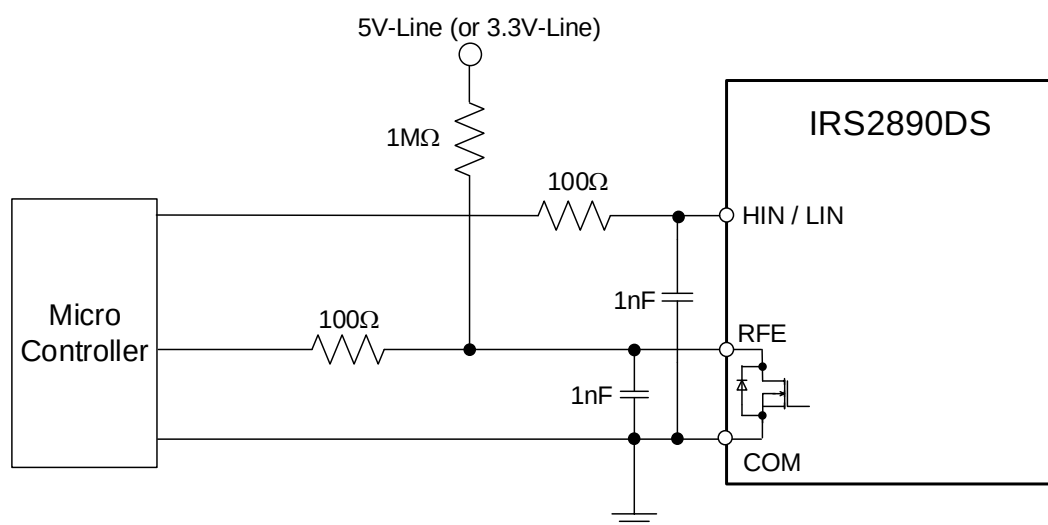
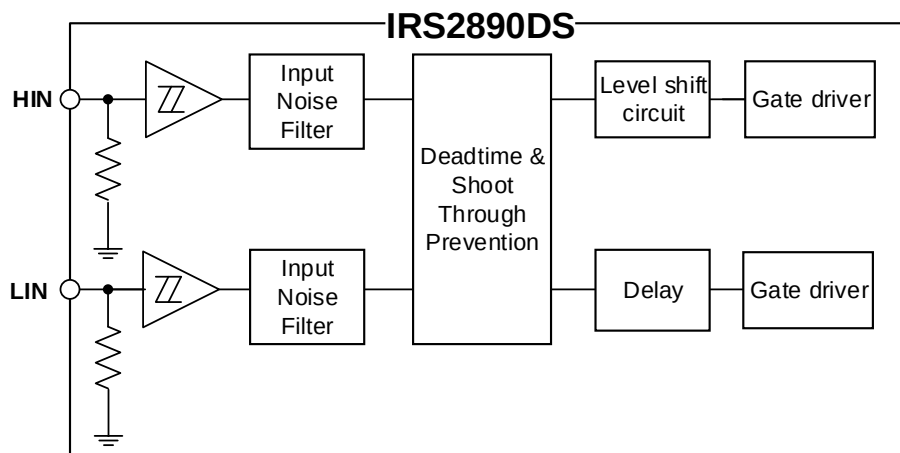

Figure 3 Recommended microcontroller I/O interface circuit
Figure 4 Simplified block diagram of IRS2890DS control IC
- To prevent signal oscillations, an RC coupling is recommended as illustrated in Figure 3.
Figure 3 shows the I/O interface circuit between a microcontroller and the IRS2890DS. The IRS2890DS input logic is active-high with internal pull-down resistors. The RFE output is an open-drain configuration. This signal should be pulled up to 5 V or 3.3 V by an external logic power supply with a pull-up resistor. The pull-up resistor and capacitor connected to the RFE pin should be selected according to the desired fault clear time.
As shown in Figure 4, the IRS2890DS input signal section integrates a pull-down resistor. Therefore, when using an external filtering resistor between microcontroller output and IRS2890DS input, pay attention to the signal voltage drop at the IRS2890DS input terminals. It should fulfill the logic "1" input voltage requirement. For instance, R = 100 Ω and C = 1 nF for the parts shown in Figure 3.